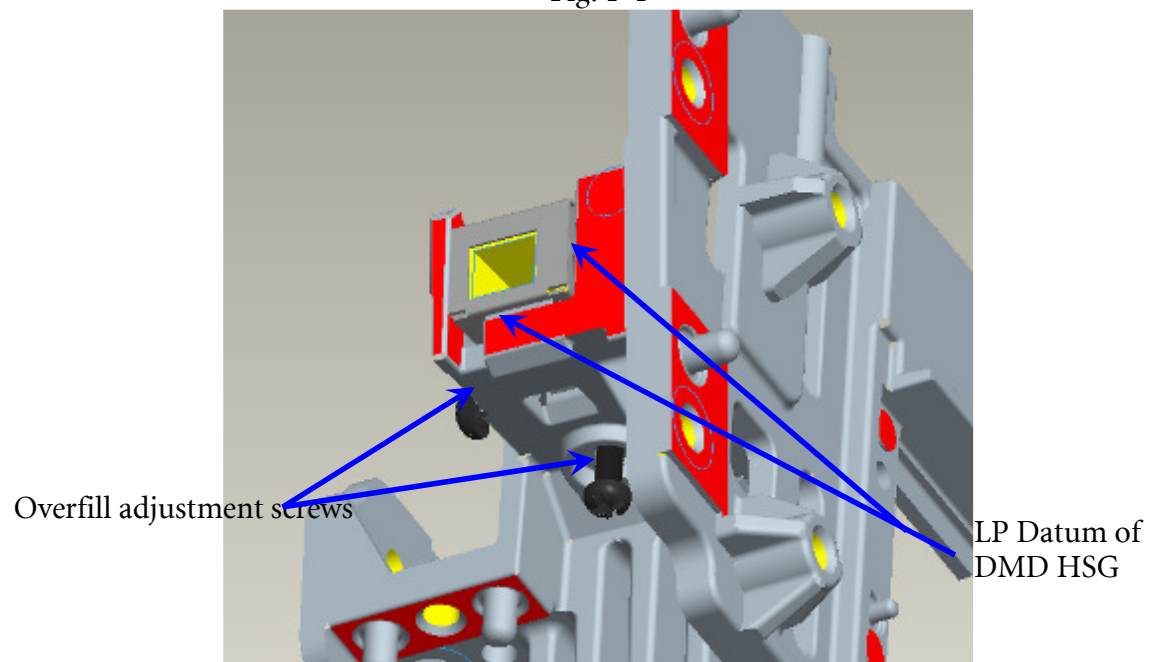

Fig. 1-5
- iv. Placed LP Module on LP datum of “DMD HSG” and adjustment screw well, shown (Fig. 1-5).